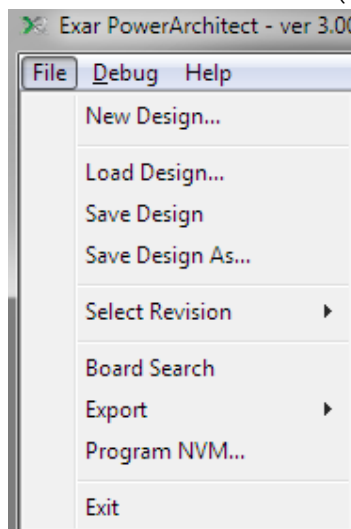

Fig. 15: Programming NVM
- To program NVM, select “Program NVM” under the File tab (Fig. 15)